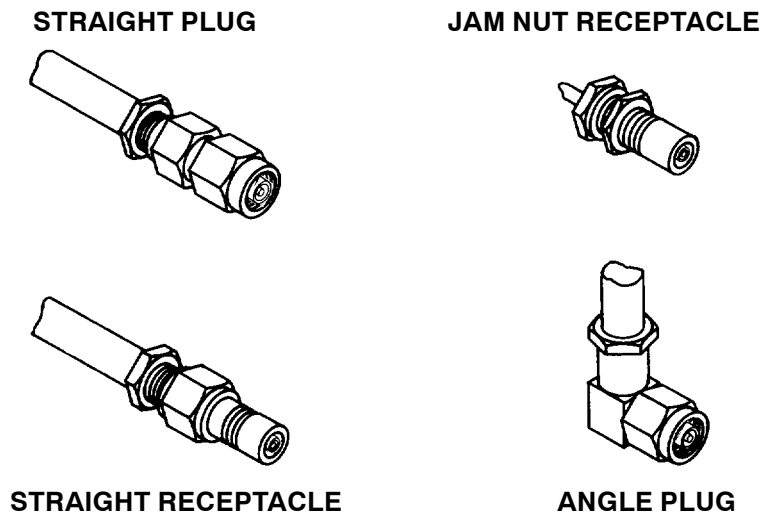

Figure 20. Typical SMC Series Connectors
50. **Series SMC Connectors.** These connectors are subminiature, threaded coupling connectors approximately the same size as the SMA series. These connectors operate to 10,000 MHz (Figure 20).